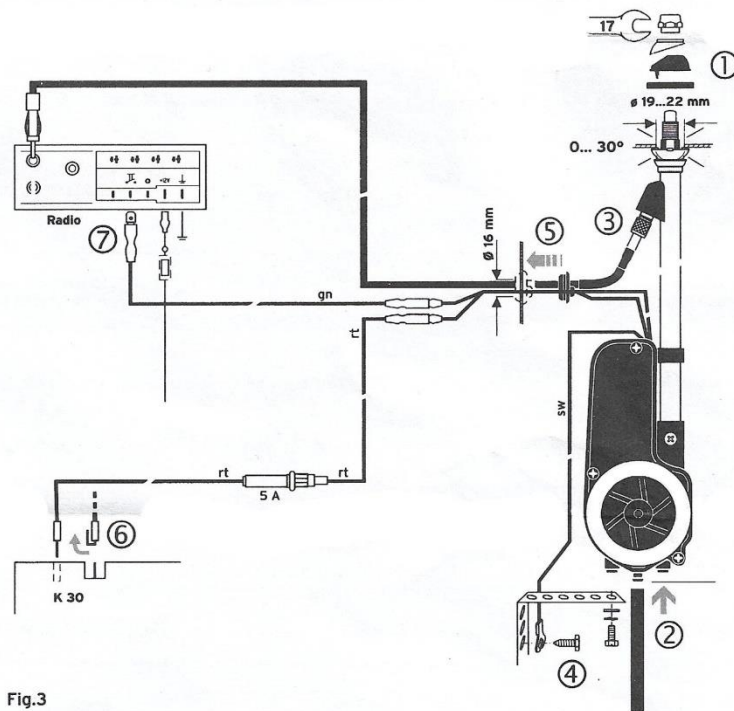
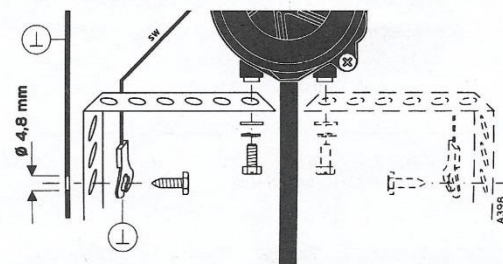

Fig.3
Fig.5
- Remove the upper parts from the antenna (fig. 3, ①). Put on the drain tube to the motor housing (fig. 3, ②).
- Tighten the antenna cable at the neck-part manually (fig. 3, ③).
- Insert the antenna from underneath into the hole. Please see that the lower spherical half has full contact around the hole (fig. 3, ①).
- Slide the sealing washer and the upper spherical half over the telescope and take care the upper spherical half coincides with the lower spherical half (fig. 3, ①).
- Put on the adapting cover and the hexagonal nut. Tighten the hexagonal nut slightly (fig. 3, ①).
- If necessary bend the bracket, screw it to the motor housing of the antenna by use of the splash shield or a brace (fig. 3, ④ and fig. 5).
- Drill a hole into the car body for the grommet (Ø 16 mm) and insert the grommet for sealing (fig. 3, ⑤).
- Connect the **black cable** (sw) to minus (ground), e.g. under screw at the bracket (fig. 3, ④ and fig. 5).
- Connect the **red cable** (rt) to a terminal having a direct lead to battery plus (5 A fuse, e.g. clamp 30 at the car fuses or at the light switch), (fig. 3, ⑥).
- Pass the **green control cable** (gn) and the antenna cable to the installation place of the car radio and connect them (fig. 3, ⑦).